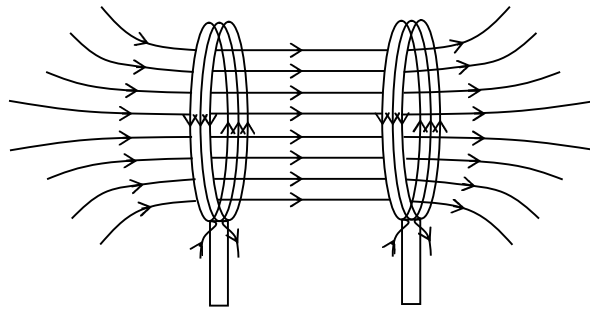

Fig. 9.1
- 2 Two flat circular coils carrying current can be used as Helmholtz coils to produce uniform magnetic field between the coils. Fig. 9.1 illustrates the magnetic flux pattern due to the Helmholtz coils.